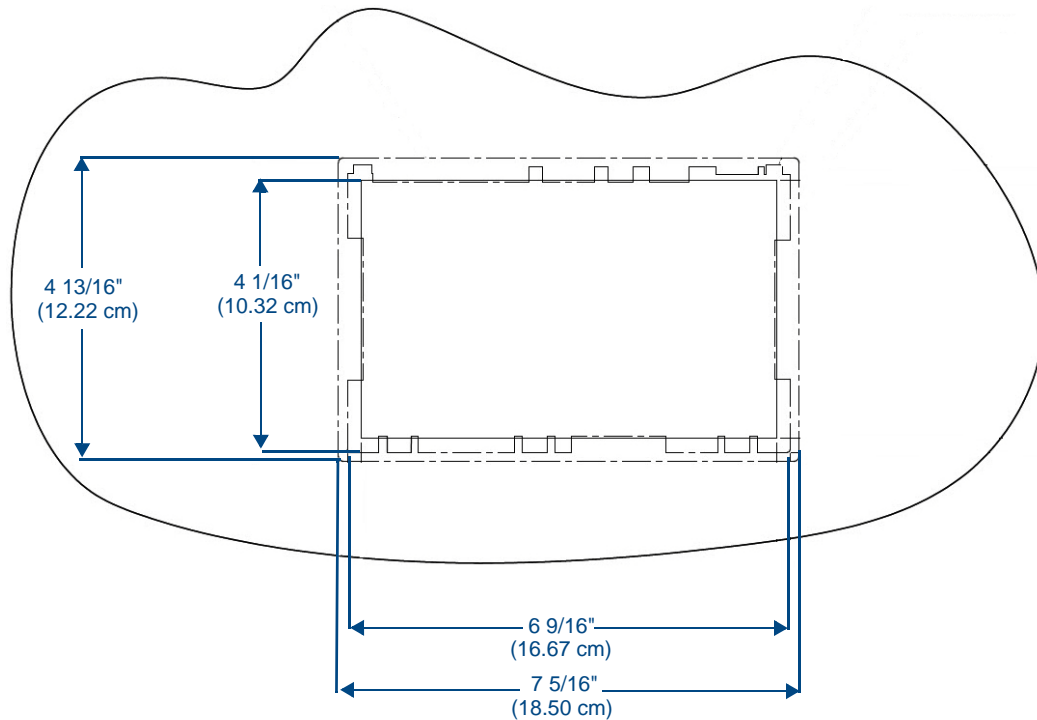

FIG. 18 MXD-700 Installation Template
2. For best results, use the MXD-700 Installation Template (**68-5968-04**) to ensure proper placement (FIG. 18). The template is marked on one side with directions for both landscape and portrait installations to ensure that the touch panel and back box are properly aligned.